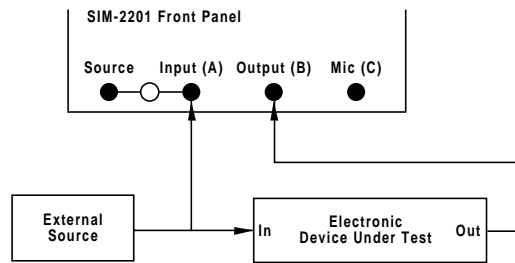

Figure 31 — v. 2.0 Lab Electronic Measurement with Input (A) as the Reference Channel
Selecting Input (A) allows Source Independent Measurements (using program material instead of the Generator). The system should be patched as shown in Figure 31 or 32.